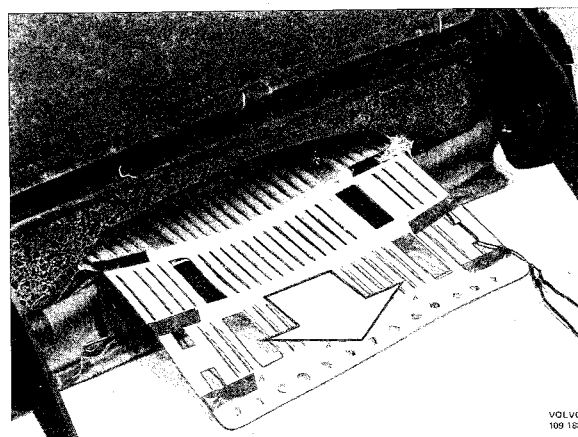

Fig. 8-51. Removing heater pad
- C. Unhook the plastic hooks and pull out the heater pad. See Fig. 8-51.